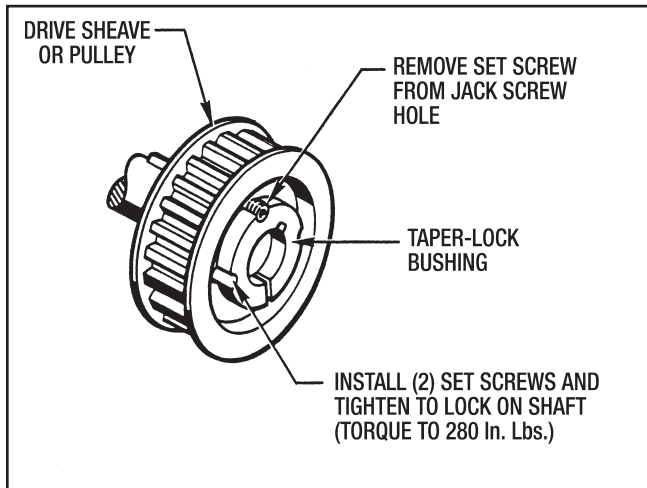

Figure 9.8 - Installing Drive Sheave or Pulley with Taper-Lock Bushing
2. Assemble the Taper-Lock Bushing and the Drive Sheave or Pulley with the (2) Set Screws placed in the (2) Locking Holes.
3. Place Assembled Drive Sheave or Pulley onto the Male Input Shaft as close as possible to the drive unit to minimize overhang shaft deflection. Tighten (2) Set Screws to lock it on the Input Shaft (See Figure 9.8).